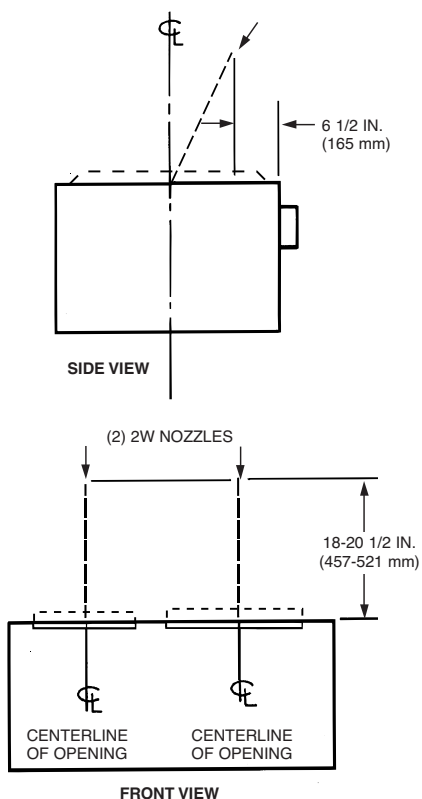

FIGURE 66
- **Nozzle Quantity/Type:** (2) Two 2W nozzles, Part No. 419337.
- **Nozzle Height:** 20 1/2 in. (521 mm) above top of appliance. See Figure 66.
- **Nozzle Location:** 6 1/2 in. (165 mm) back from front edge of appliance. See Figure 66.
- **Nozzle Aiming Point:** Aimed at center of each opening. See Figure 66.